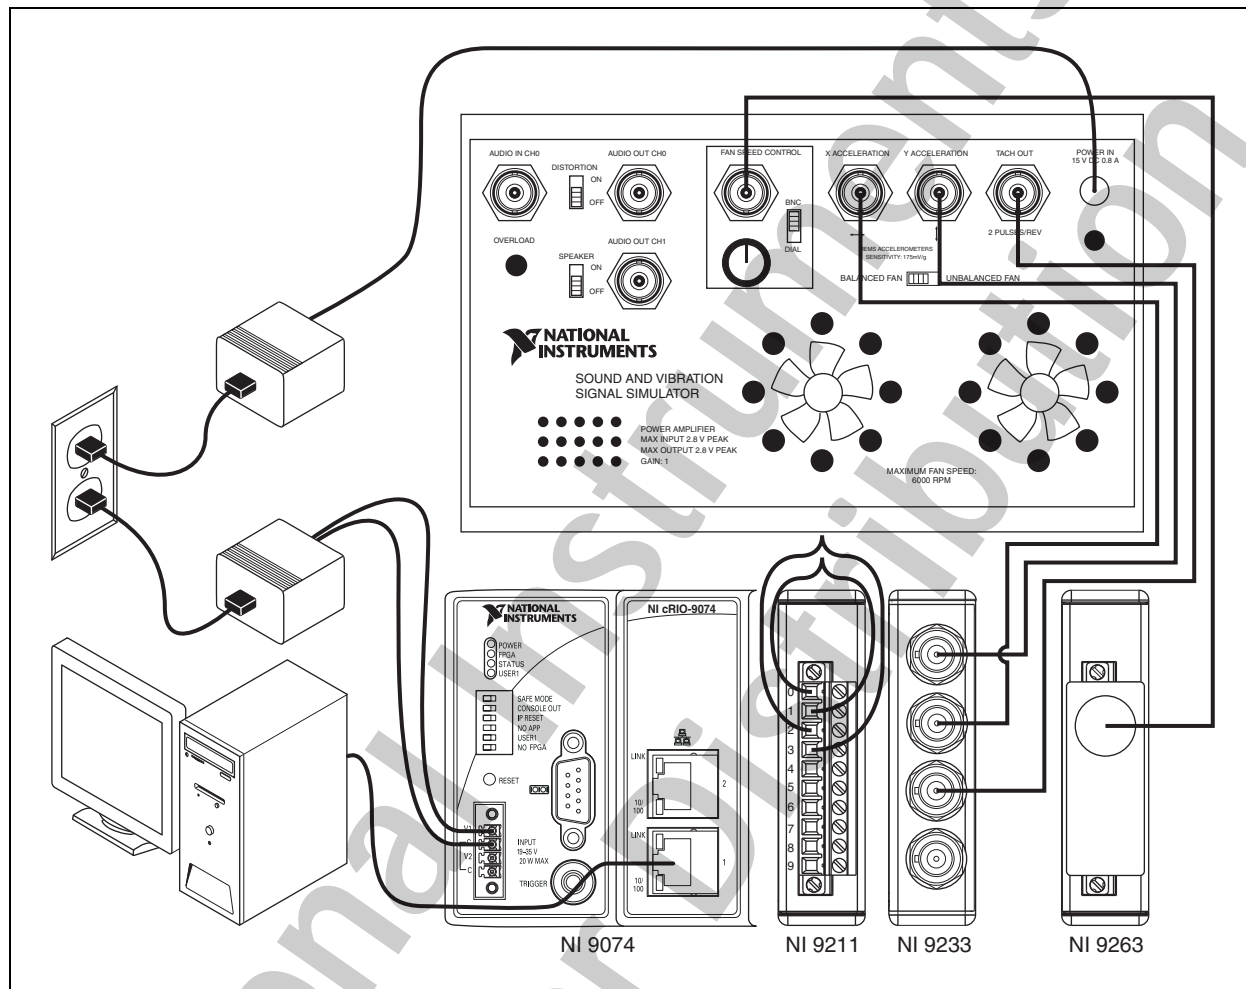

Figure 2-1. System Wiring Diagram for LabVIEW FPGA Course
1. Refer to Figure 2-1 as you set up your CompactRIO system.